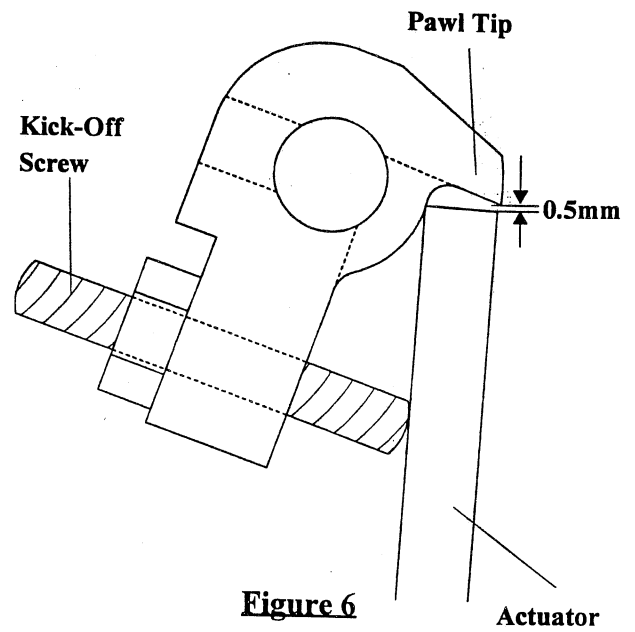

Figure 6
1. With the machine clamped, temporarily *back out* the kick-off screw until the actuator is approximately flush with the tip of the pawl surface (Figure 6).
7. *Adjust* the actuator height until the pawl contact surface and the end of the actuator are approximately .5mm apart (Figure 6), *tighten* the lock screws. *Adjust* the kick-off screw until it contacts the actuator, then *rotate* 1 additional full turn. *Ensure* the clamp feet are closed and *tighten* the lock nut (Figure 6).